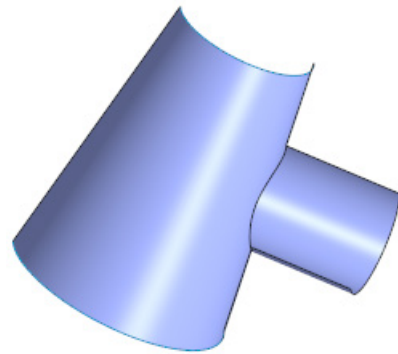

Figure 15-61 Resulting merged surface
- Choose the **Preview** button to verify the desired trim and then exit the dashboard by choosing the **OK** button. The resulting merged surface is shown in Figure 15-61. This merged surface is a single surface and now can be converted to a solid feature.